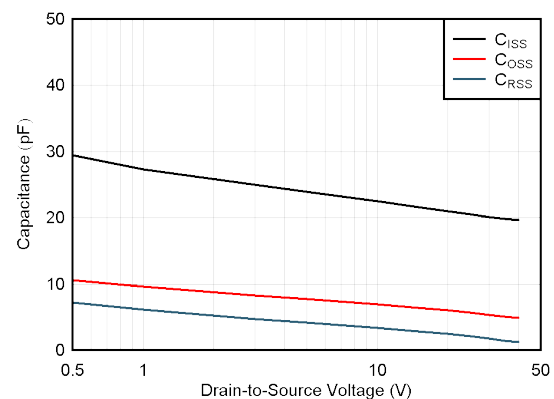

图 6-12. Input, Output, and Reverse Transfer Capacitance vs Drain-to-Source Voltage
Most previous-generation JFET devices featured only three pins (gate, source, and drain). For these devices, the gate pin is in the same physical location as the VCL pin on the JFE150. To test the JFE150 in a three-pin socket, short pin 2 of the JFE150 (VCL) to pin 3 (G). When the devices are connected with pin 2 shorted to pin 3, the diode from VCL is shorted out and cannot provide any clamping protection. The input capacitance (C_{ISS}) also increases by 1 pF; see 图 6-12.